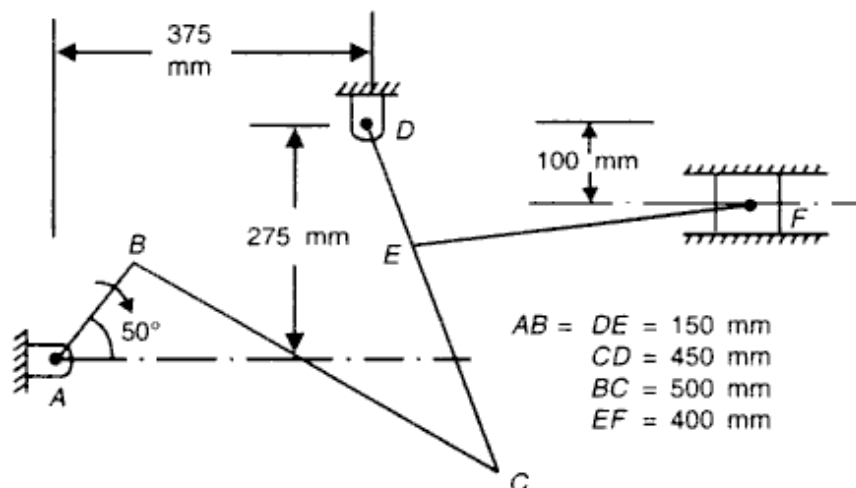

Figure Q1A
- 1A.** In the mechanism shown in figure Q1A, the crank AB rotates about point A at uniform speed of 240 rpm in clockwise direction. The link CD oscillates about the fixed point D, which is connected to link AB by a coupler link BC. The slider F moves in horizontal guides, being driven by the link EF. Determine: (5)